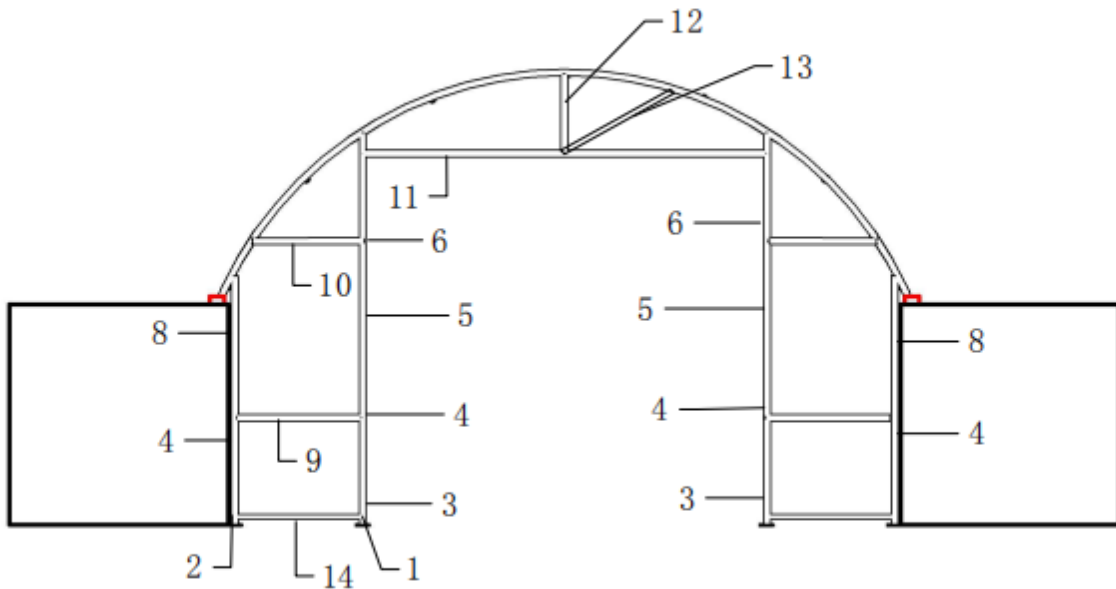

Figure 1
Please refer to the diagram (Figure 1) to install the Frame.
2. As the **Figure 1** Shown, assembly the frame for end wall according to above drawing,